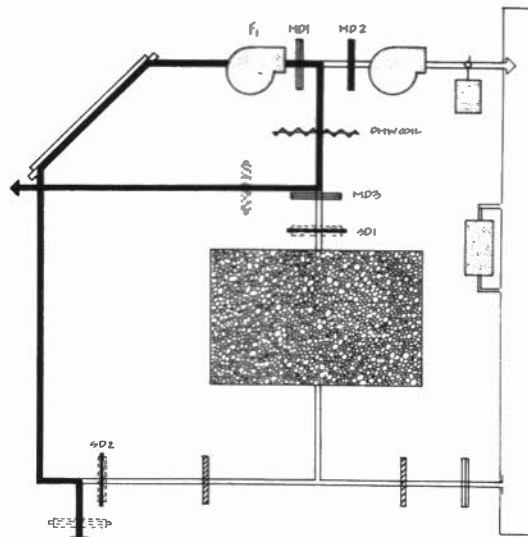

Figure 8.6 DHW and Power Venting Mode
**FIG. 8.6 DHW AND POWER VENTING:** In the summer, the domestic hot water mode can operate either in its normal mode ( $\Delta T_{HW}$ ), or it may operate during power venting, when the roof collector temperature exceeds  $170^{\circ}\text{F}$  ( $T_{COL}$ ). When the collector power vents, the pump circulates the water from the pre-heat tank through the heat exchanger coil in the duct, recovering some of the heat from the air before it is dumped outside.